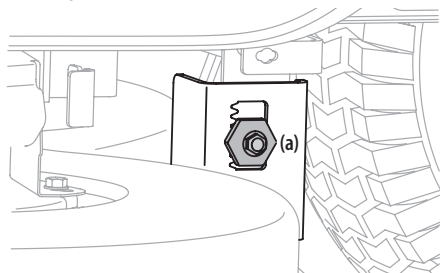

Figure 25
3. Under the rear fenders inside the wheels there is a lift adjustment hex cap screw and gear for each side of the deck. See Figure 25.
4. Loosen, but do NOT remove, the hex cap screw (a) on the left deck hanger bracket. See Figure 25.
6. When the proper adjustment is achieved, tighten the hex cap screw (a) on the left deck hanger bracket. See Figure 25.